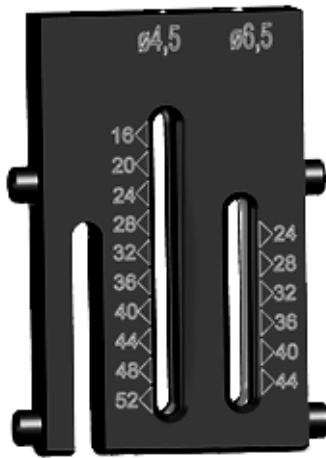

Figure 37
- ▶ Taking note of the measurements taken either with the peripheral drill guide or the Depth Gauge, select the appropriate length screw and verify its length with the screw identification tool built into the case/tray [Figure 37].